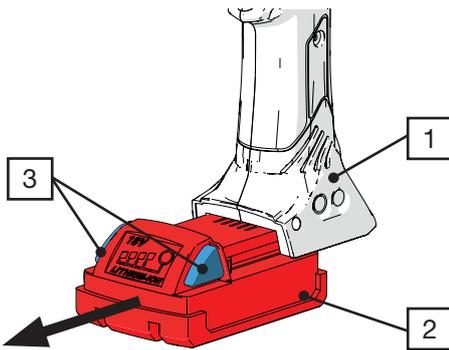

Fig. 18: Removing the battery
- ▶ Press the buttons (Fig. 18/3) and remove the battery (Fig. 18/2) from the clamp pincer CP 10 / CP 20 / CC 20 (Fig. 18/1).